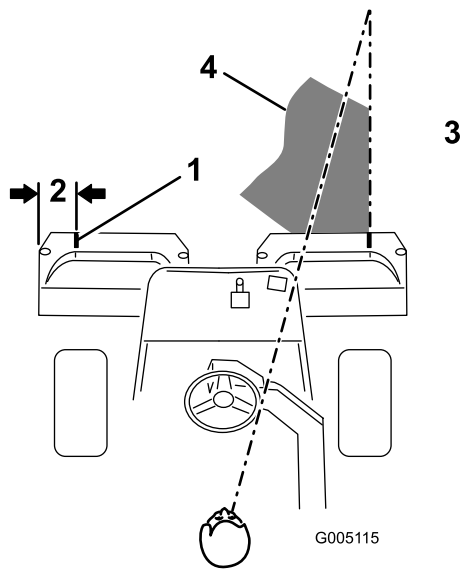
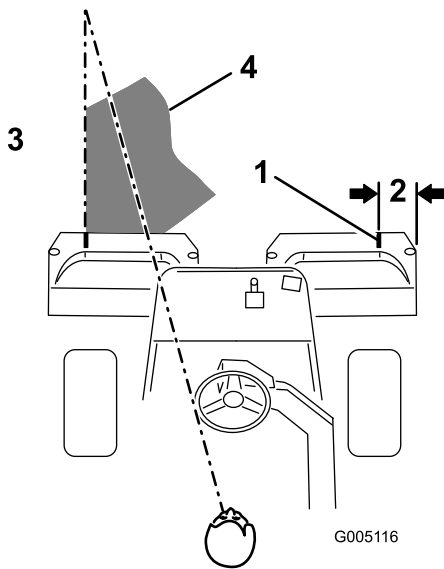

Figure 33
Figure 34
2. Either place a strip of white tape or paint a line onto each basket paralleling the outer edge of each basket (Figure 33).
3. Overlap a minimal amount with the previous cut on return passes. To assist in maintaining a straight line across the green and keep the machine an equal distance from the edge of the previous cut, establish an imaginary sight line approximately 6 to 10 ft (1.8 to 3 m) ahead of the machine to the edge of the uncut portion of the green (Figure 33 and Figure 34). Some find it useful to include the outer edge of the steering wheel as part of the sight line; i.e. keep the steering wheel edge aligned with a point that is always kept the same distance away from the front of the machine (Figure 33 and Figure 34).